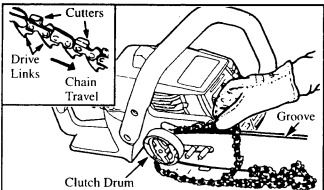

Figure 12
- Hold the chain with the cutters facing as shown in Figure 12 (inset).
- Place the chain over and behind the clutch drum and onto the sprocket. Figure 12.
- Start at the top of the bar and fit chain drive links into the groove around the guide bar. Figure 12.